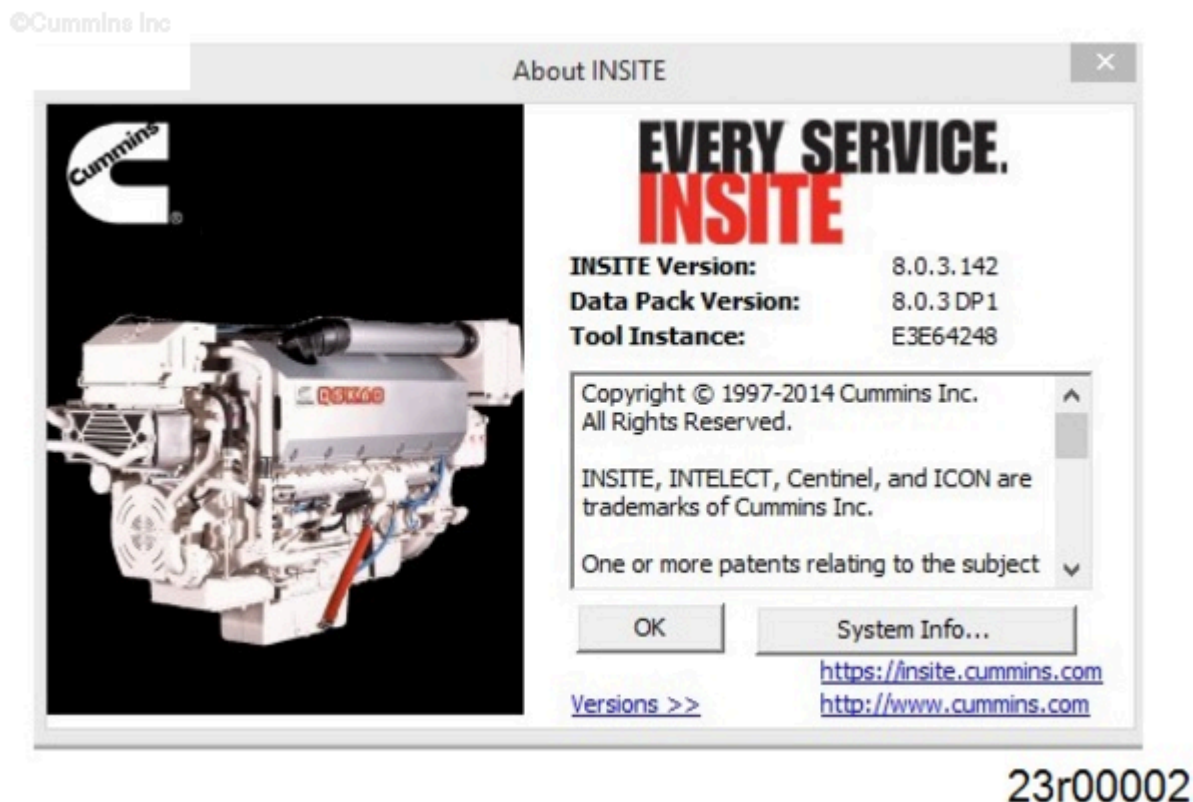

Figure 1, About INSITE
- Version of INSITE™ electronic service tool software installed (Open INSITE™ electronic service tool, click on 'Help' and open 'About INSITE'). See Figure 1.